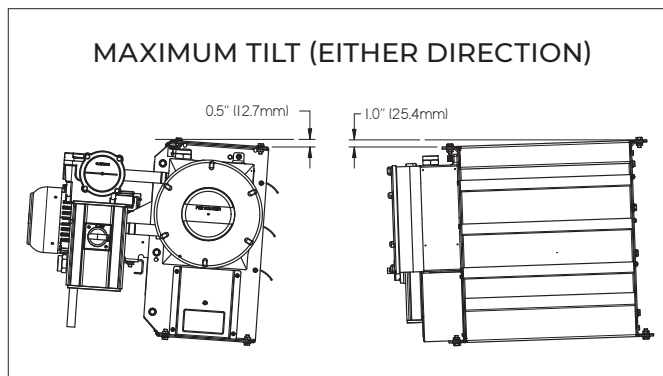
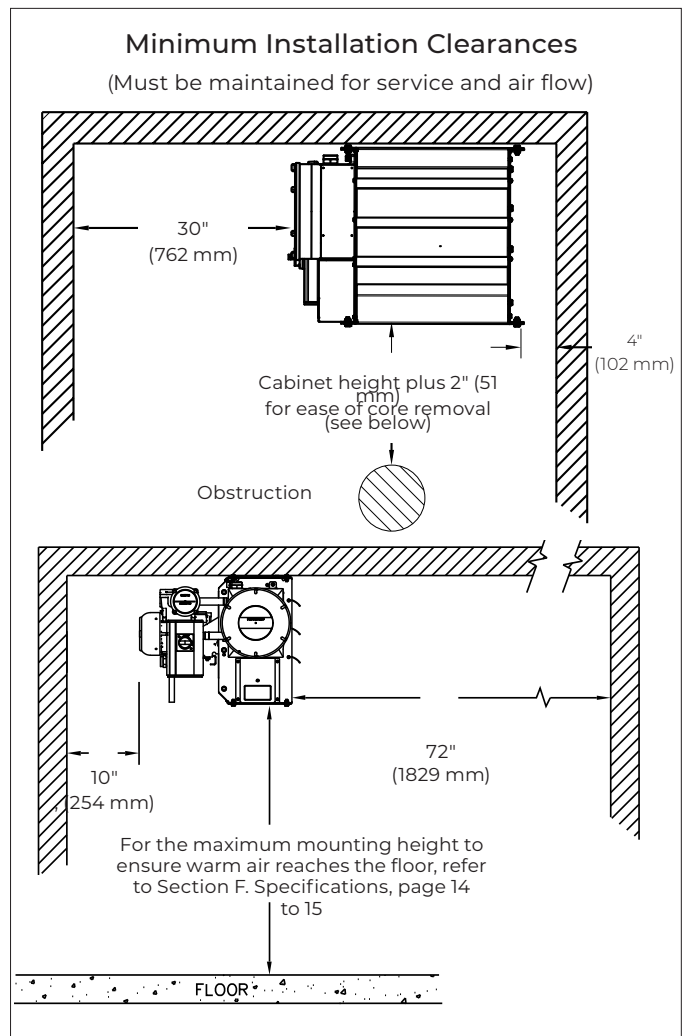

Figure 3
Figure 4
- 2.1 The heater must be permanently mounted in a level, upright position for operation. See Figure 3 and Figure 4, page 7 and Figure 5, page 8 for maximum tilt angles, installation clearances, and physical dimensions. For ease of installation, a variety of mounting kits are available from the factory.
- 2.3 Do not install conduit below heater (see Figure 3, page 7).